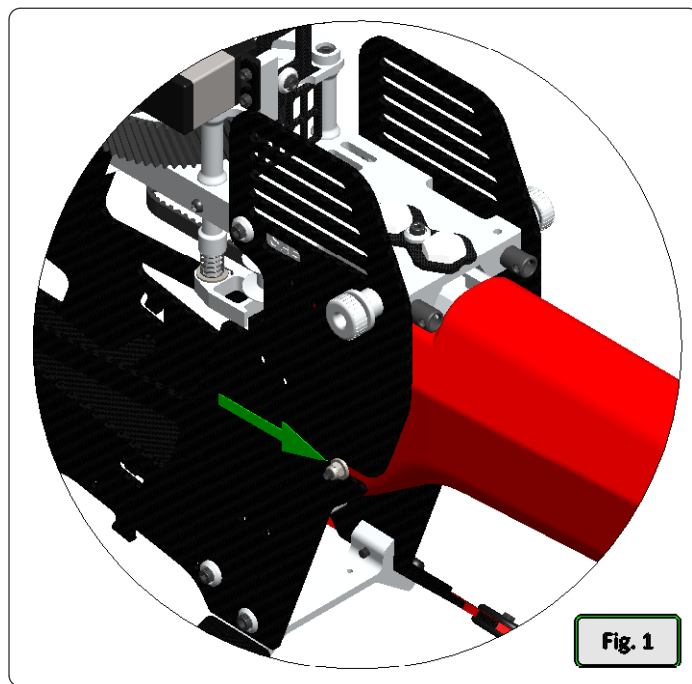

Fig. 1
*Check the screws that are highlighted in the following images frequently, make sure you remain tight (**fig.1** and **fig.2**).